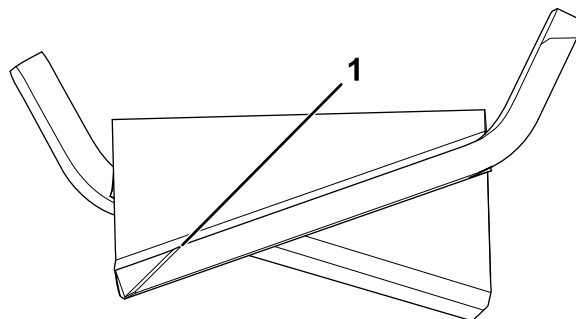

Figure 106
1. Use a file or sharpening tool to sharpen the cutting edge at both ends of the blade (Figure 106).
Note: If the blade is not balanced, file some metal off the heavy end of the blade in the sail area only (Figure 106).